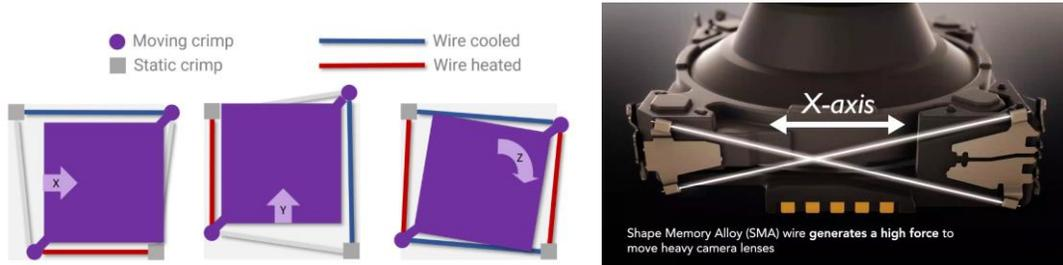

Figure 6. SMA wires contracting and extending when heated and cooled
- SMA wire length contract and extend with temperature change. The SMA actuator is made from SMA wires. The **Figure 6** demos how the contract and extend moves object. It is very compact and simple for linear or rotary motion (wire springs, actuators) with low part count and cheap materials. To reduce BOM cost further, some vendors, such as CML, provide 8 wires SMA to manage AF (auto focus) and OIS with same actuator. The SMA actuator started being used in OIS system in recent years.